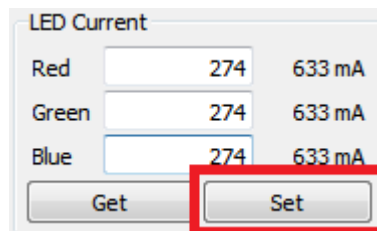

Figure 2-29. DLP LightCrafter GUI LED Current Setting Set Button
2. Click the Set button as shown in Figure 2-29.